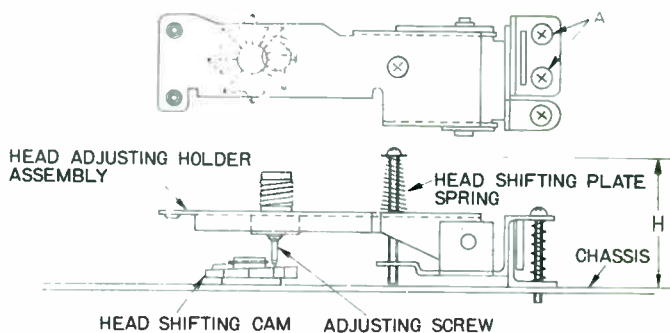

Fig. 14
(2) After installation assure that dimension H shown in Fig. 14 is 33.5mm. Also assure that deflection of the head shifting plate spring under this state is 2mm.